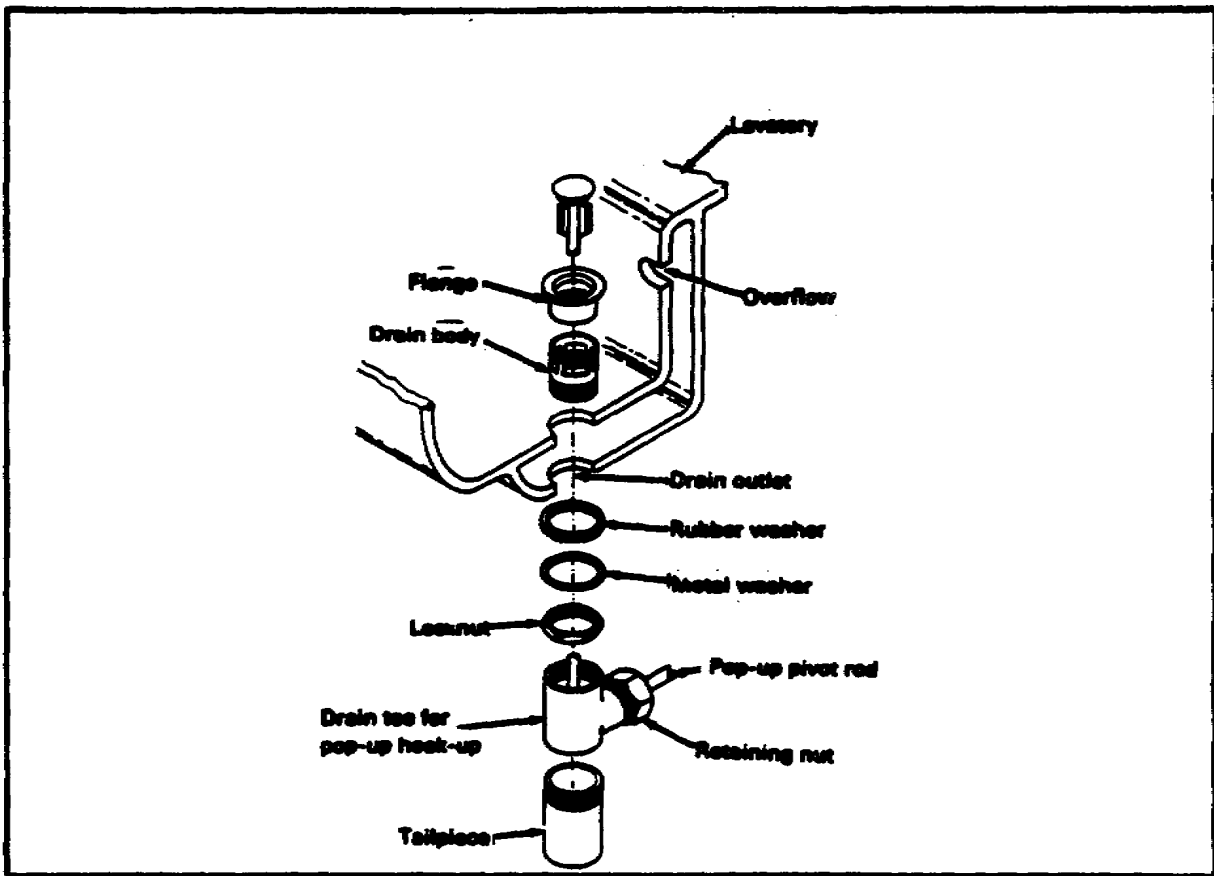

FIGURE 9. POP-UP PLUG OUTLET ATTACHMENTS
**Pop-up type of outlet attachment.** Use the following steps to attach a pop-up drain (see Figure 9):